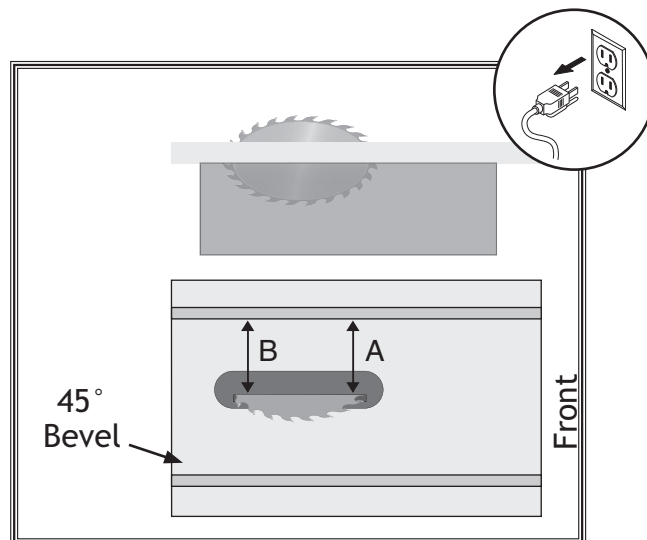

Figure 41. 45° blade parallelism measurement.
2. Shim the trunnion assembly according to the difference measured when the blade was in the 45° position. See Figure 41 for measurement locations.